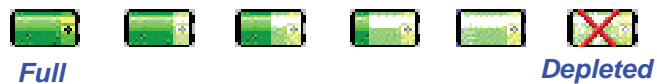

Figure 6-10 Battery Level Indicators
- **Battery Indicator:** Indicates that the instrument is being powered by a rechargeable battery. The amount of battery life left is denoted by the fill inside the battery icon. When the battery is low, the words “BATT LOW!” will appear on the screen and the unit will beep continually until it is plugged into its AC power cord for recharging. See Figure 6-10.